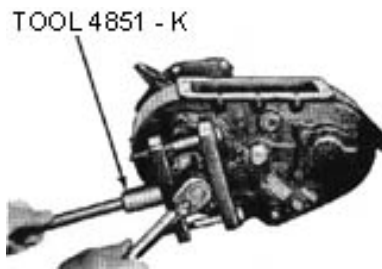
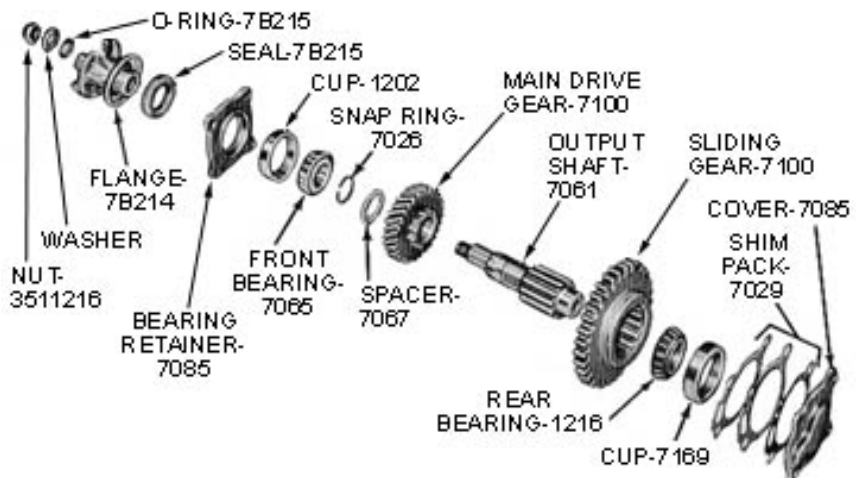

Figure 5 – Removing or Installing Flange Retaining Nut
Figure 19 – Front Output Shaft, Disassembled
6. Remove the flange retaining nuts from the front and rear output shafts (Fig. 5).
7. Install the main drive gear spacer and secure with the snap ring (Fig. 19).
10. Using front flange and the tool shown in Fig. 5, install the front output shaft front bearing on the shaft. Install the front bearing cup (Fig. 19).
20. Install the flange, washer, and retaining nut on each of the output shafts, using the tool shown in Fig. 5. Be sure to install a new O-ring in the front output shaft flange. Torque the attaching nuts to specifications.